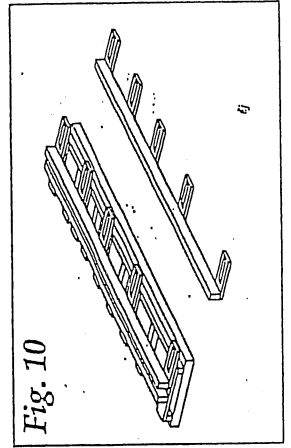

Fig. 10
9) You should now have two separate assemblies as shown in fig. 10.